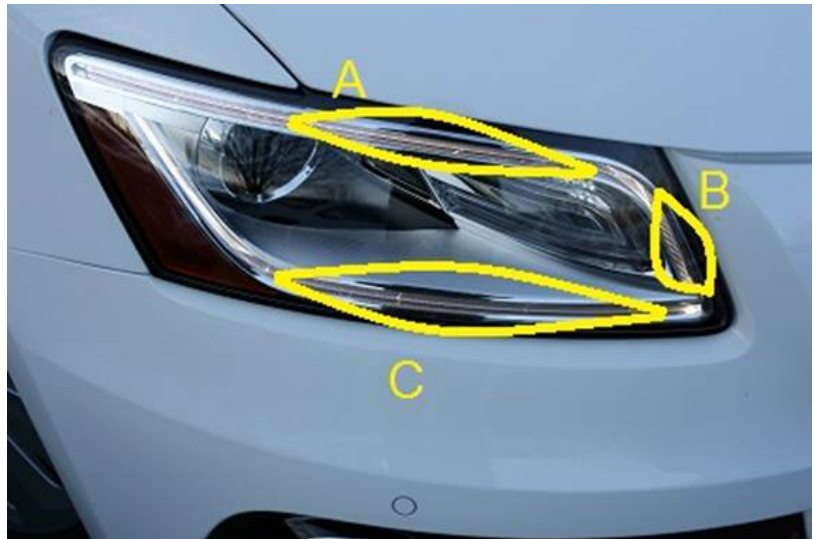

Figure 6. Upper light pipe perceived defect (A, B). Lower light pipe perceived defect (C).
- A defect may be perceived for acute corner viewing angle (Figure 6).